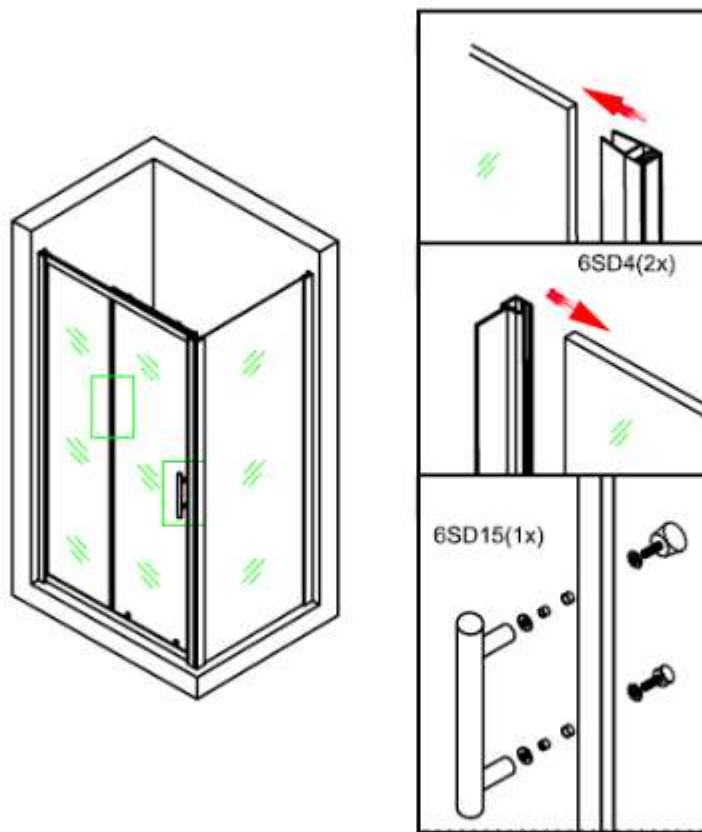

Figure 9
9. Click the strips(6SD4) to the glass panel and install the handle ,as showed in figure 9.